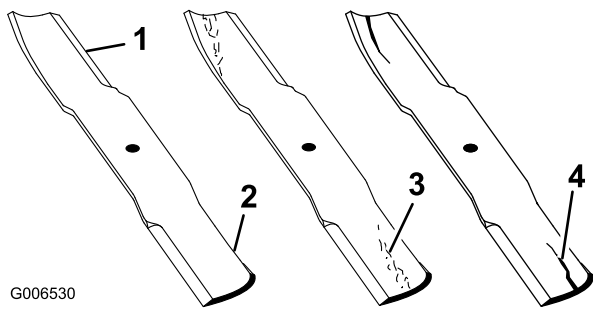

Figure 62
1. Inspect the cutting edges (Figure 62).
2. Inspect the blades, especially the curved area (Figure 62).
If you notice any damage, wear, or a slot forming in this area (Figure 62), immediately install a new blade.